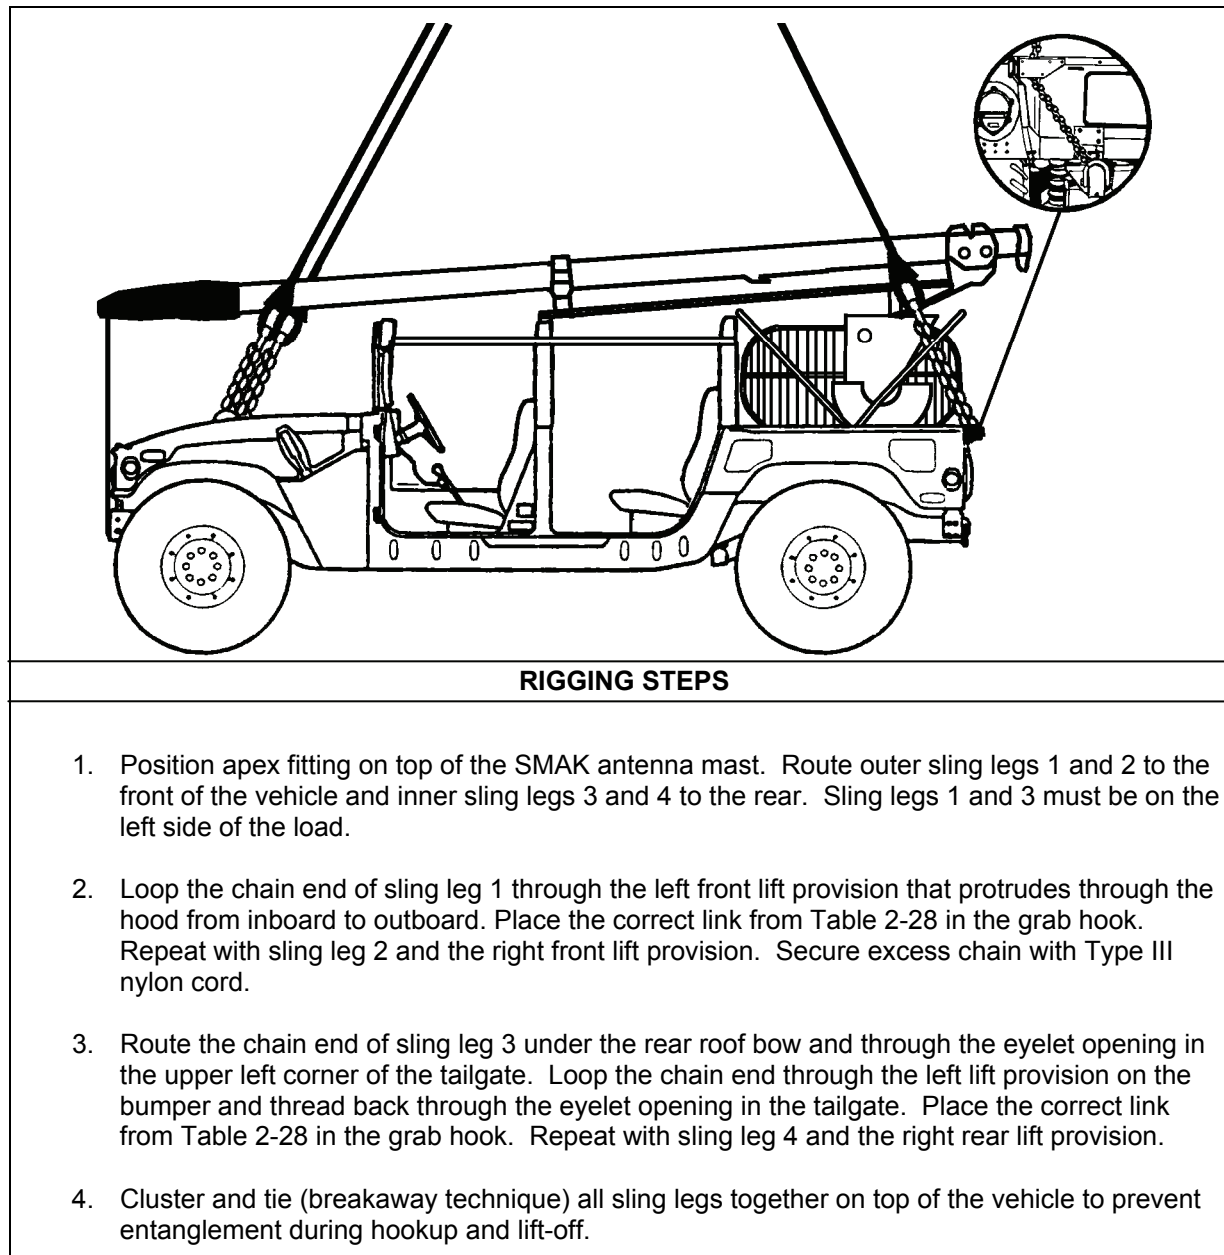

Figure 2-27. AN/MRC-142B Radio Terminal Set with 30M Mast on M998
- **Rigging.** Rig the load according to the steps in Figure 2-27.